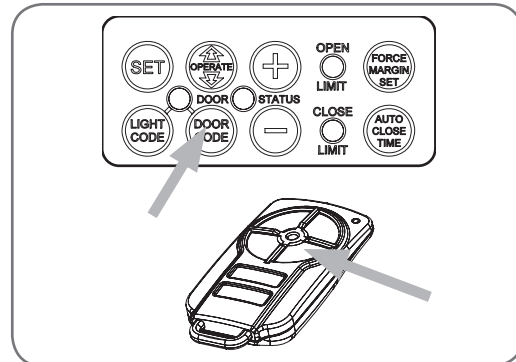

fig 33
- Press and hold the DOOR CODE button (**Fig. 33**).
- Press one of the four buttons on the transmitter for two (2) seconds, pause for two (2) seconds, then press the same button again for two (2) seconds.